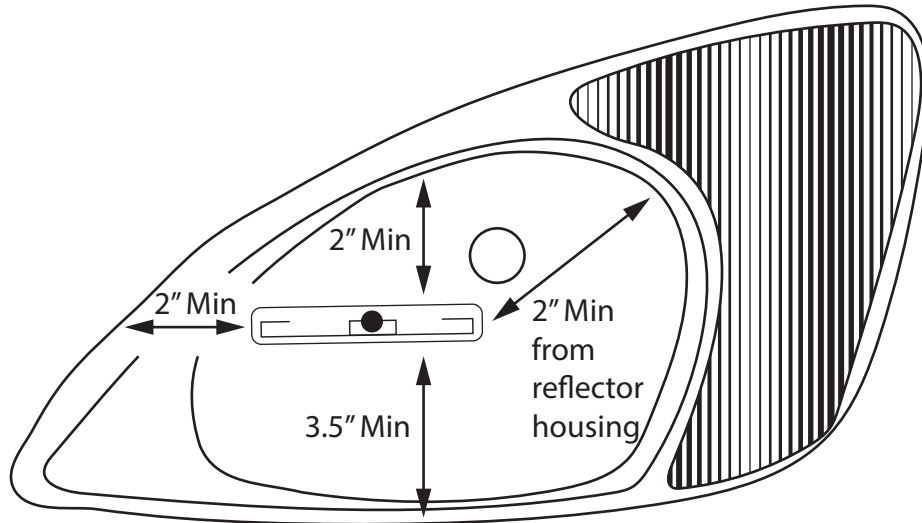

Figure 2 – Placement of tag on headlamp
2. The tag must be at least 2 in (5.1 cm) away from any materials containing metal and approximately 3.5 in (8.9 cm) from the bottom reflector (Figure 2).